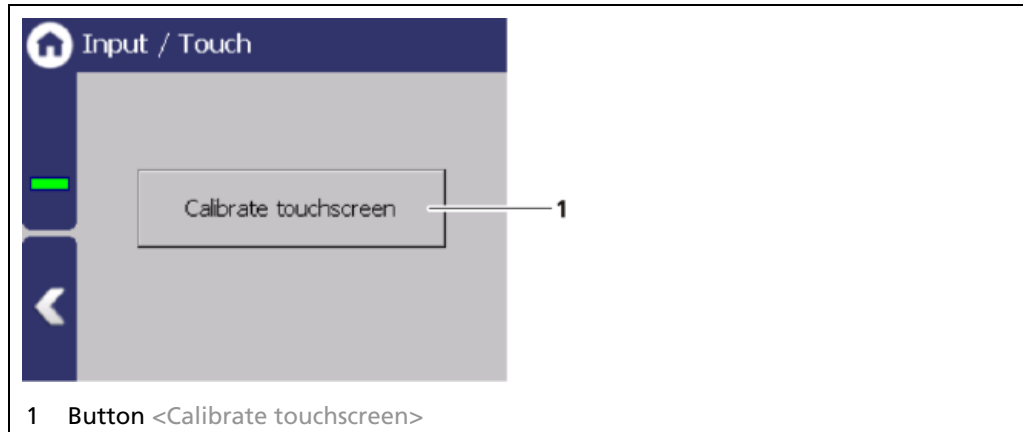

Fig. 34 Input/ Touch
1. Click on <Calibrate touchscreen> (Fig. 34, item1).